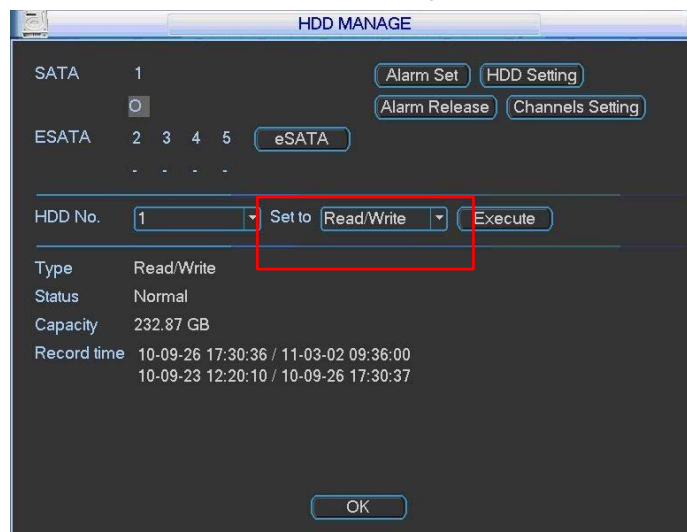

Figure 4-17
In the main menu, from Advanced to HDD management, you can set one or more disk(s) as redundant. You can select from the dropdown list. See Figure 4-17. System auto overwrites old files once hard disk is full.
- Set redundant disk(s) as read-only disk or read-write disk (Main menu->Advanced->HDD management). See Figure 4-17. System needs to reboot to get setup activated. Now you can search or playback file in redundant disk.